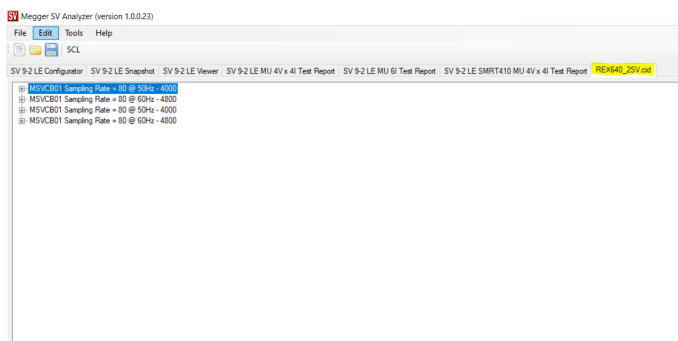

Figure 6: Import SCD Tab
1. The imported file will be launched as a new tab with its name and file type as an extension. In the example in Figure 6, the REX640_2SV.cid tab, highlighted in yellow, can be seen after the import. If there is no SV data available in the file, an error message will appear indicating there was no SV data.